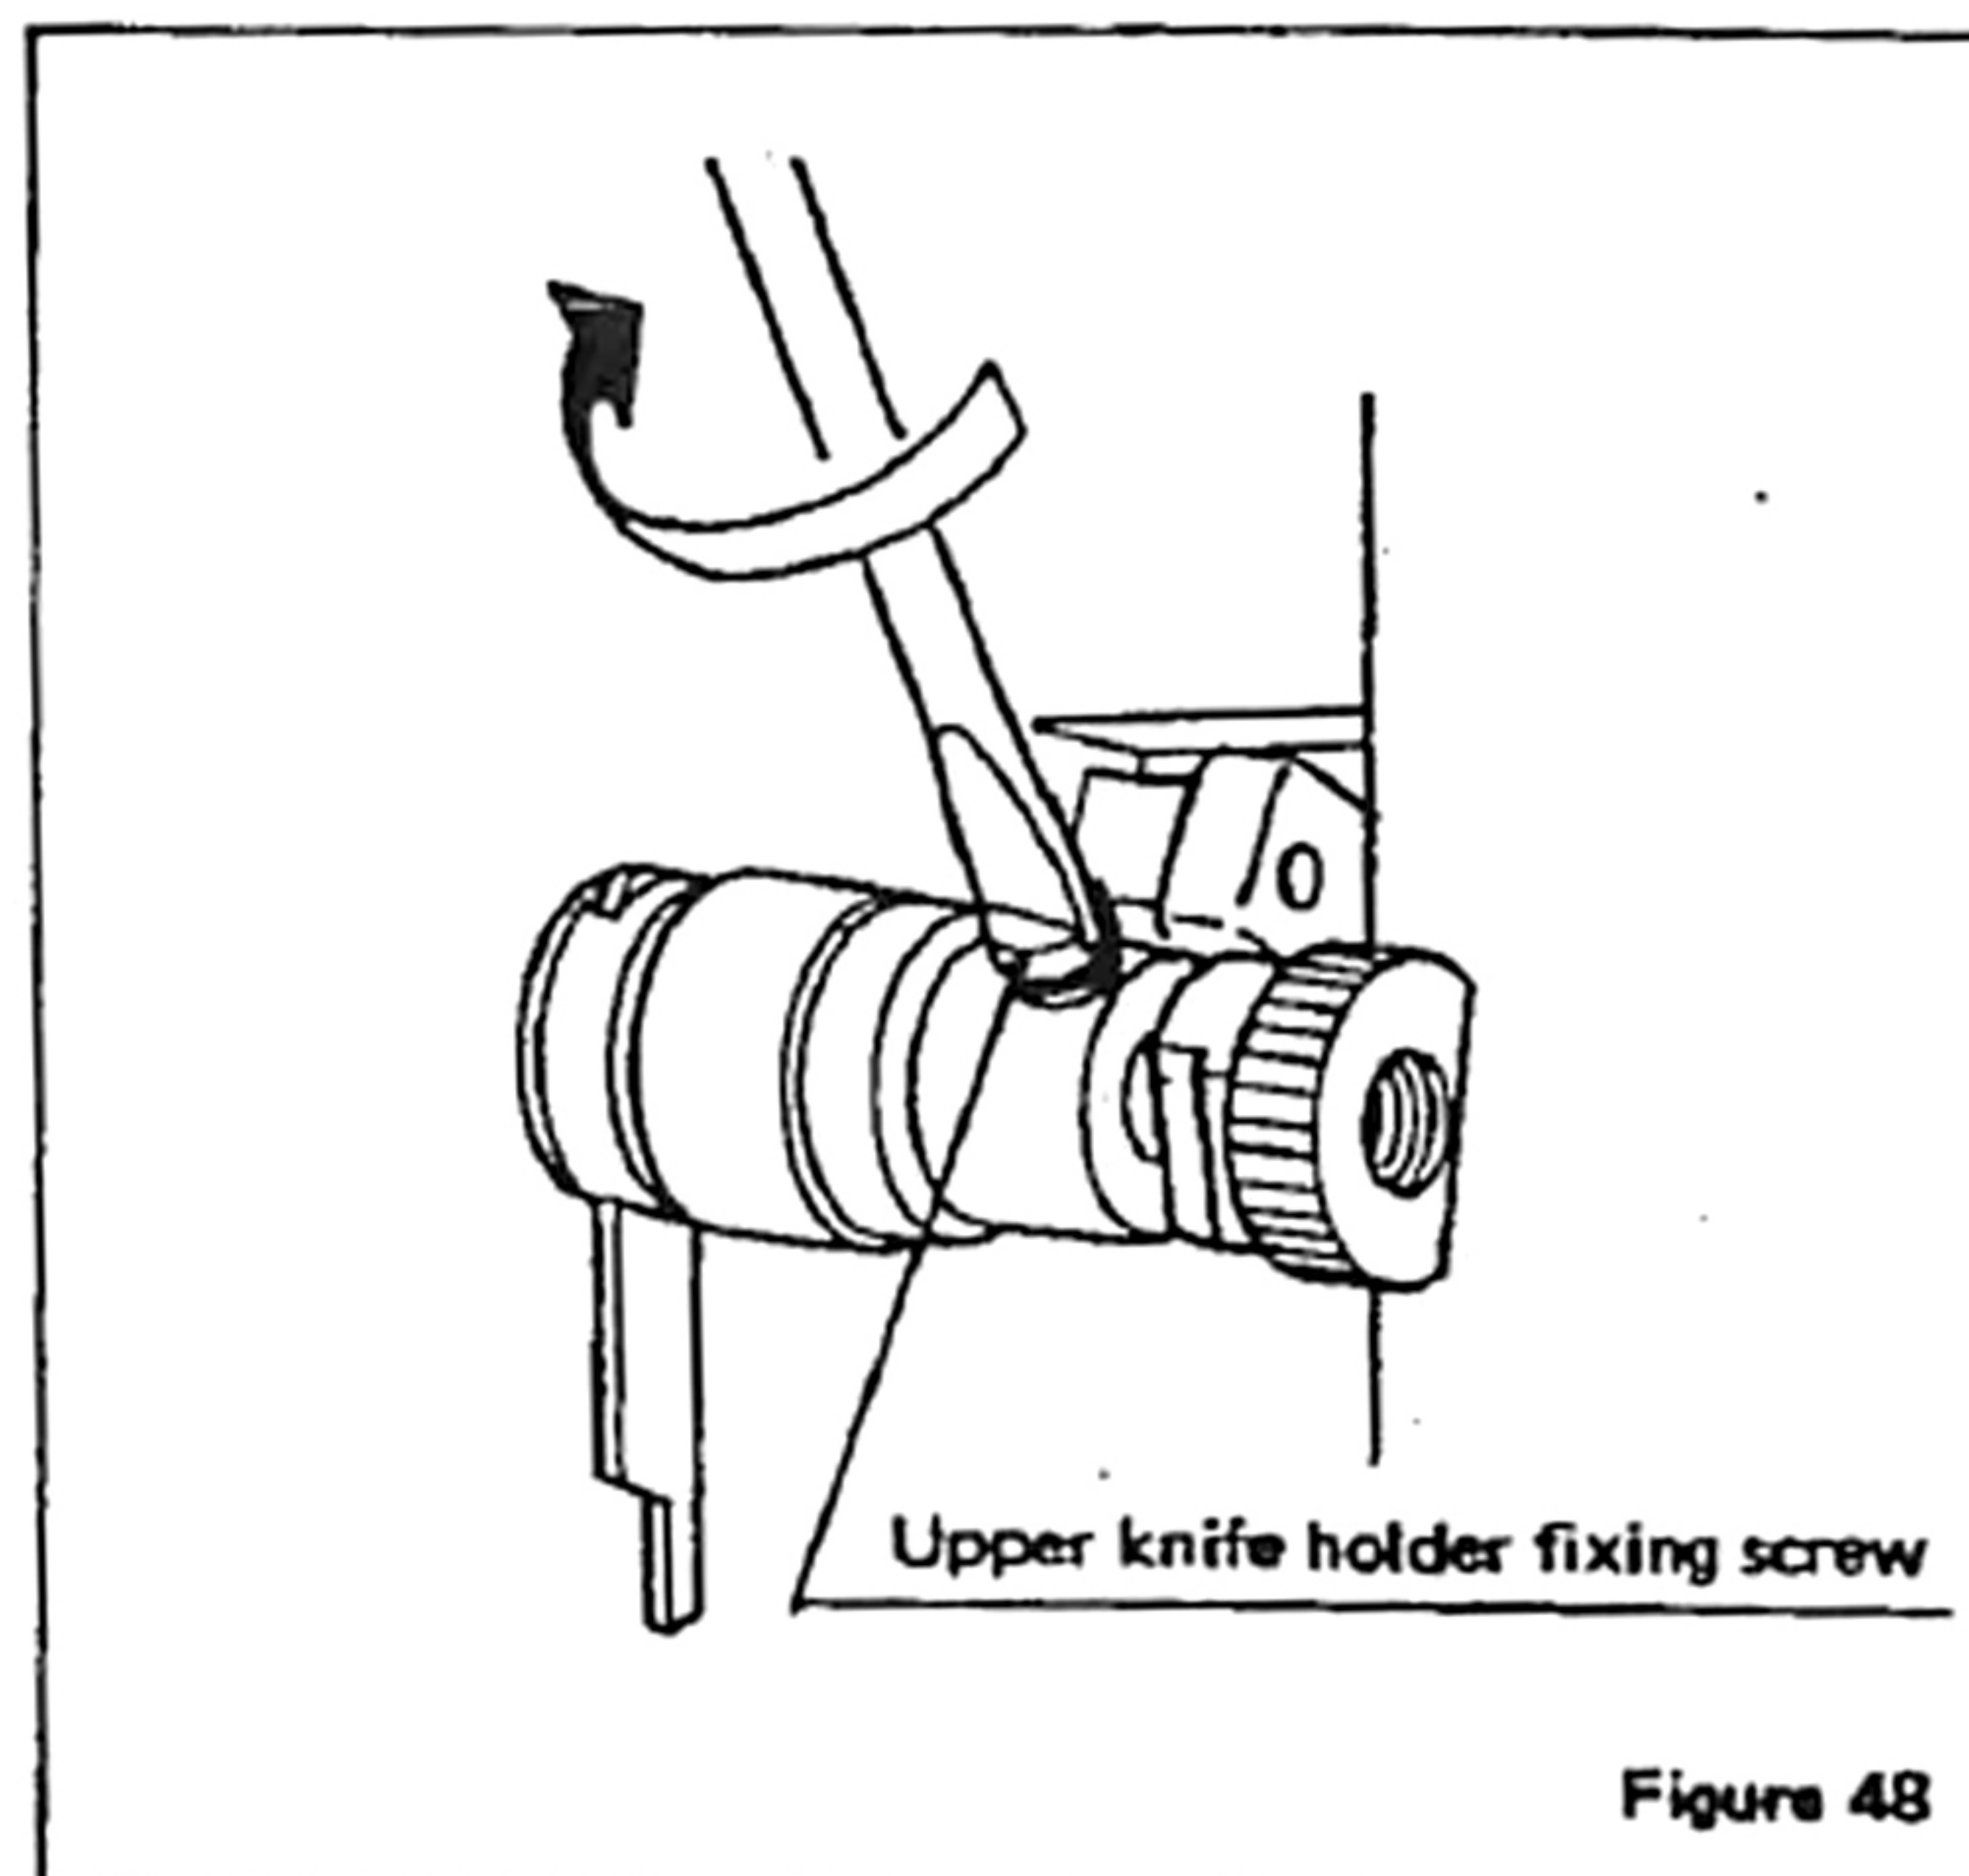

Figure 48
2. Tighten the upper knife holder fixing screw (Figure 48).